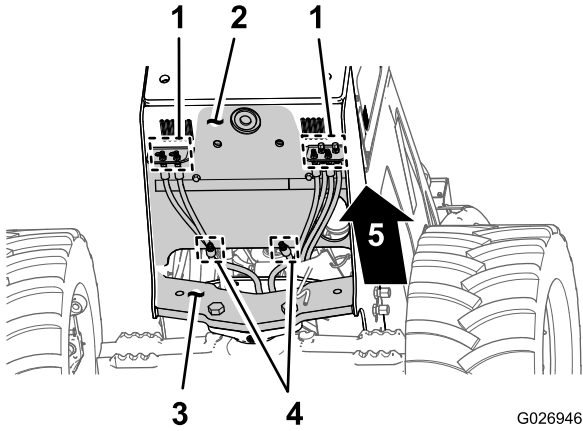

Figure 3
- At the front of the machine, clean the bottom of the frame plate and the front axle support as shown in Figure 3.
- Clean the bulkhead fittings and the hose fittings as shown in Figure 3.